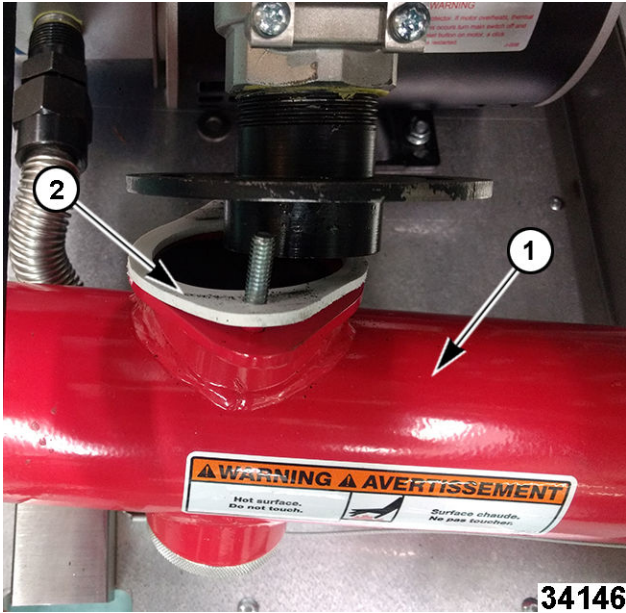

Fig. 114
18. Replace flange gasket (2, Fig. 114) if removing manifold (1, Fig. 114) from valve.